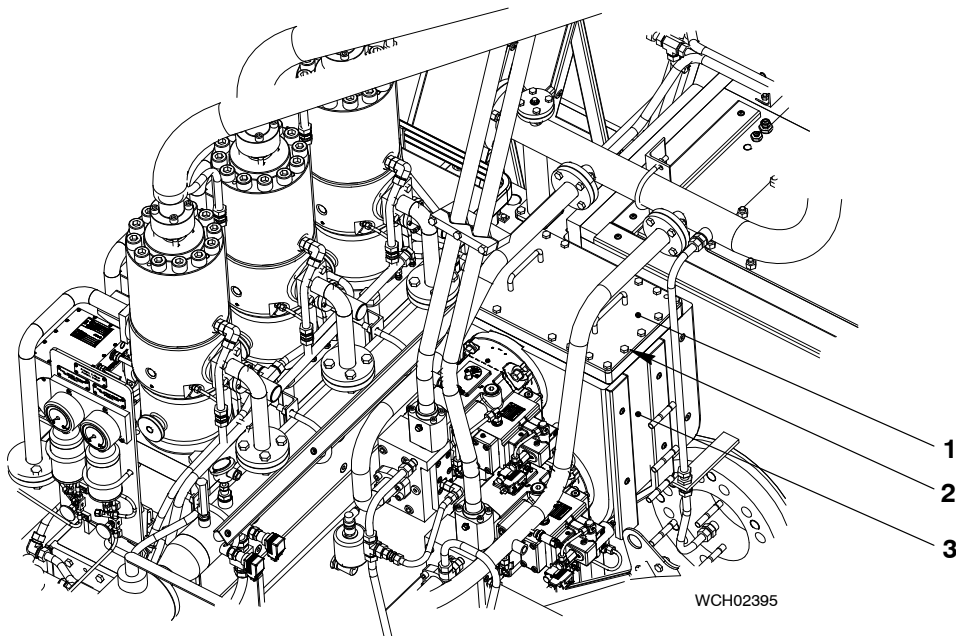
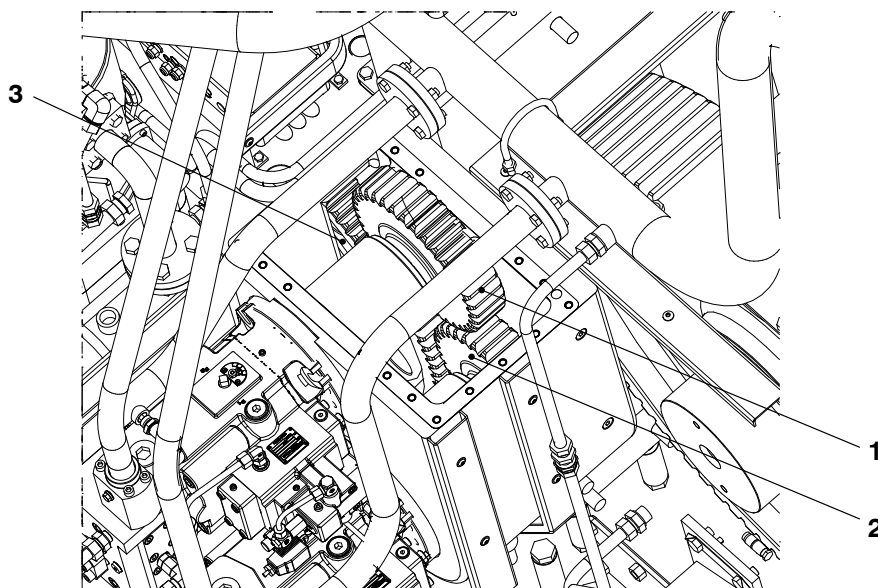

Fig. 2
Fig. 3
- 1) Remove the 20 screws (2, Fig. 2).
- 2) Remove the cover (1) from the supply unit casing (3).
- 3) Do a check of the pinions (1, and 2 Fig. 3) and the camshaft gear wheel (3) for wear and damage (refer to 0330 1, Clearance Table, Fuel and Servo Pump Units).
- 4) If there is too much wear and / or damage, you must replace the pinions (1, 2) and the camshaft gear wheel (3).
- 5) Attach the cover (1, Fig. 2) to the supply unit casing (3) with the 20 screws (2).